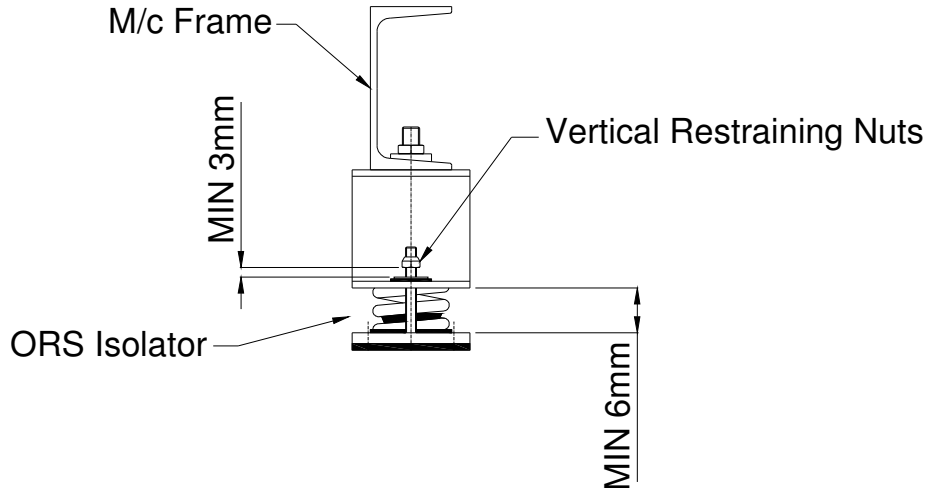

Figure 2.
6. Vertical restraining nuts on isolators can now be adjusted to provide a minimum of 3 mm clearance, as shown on Figure 2.